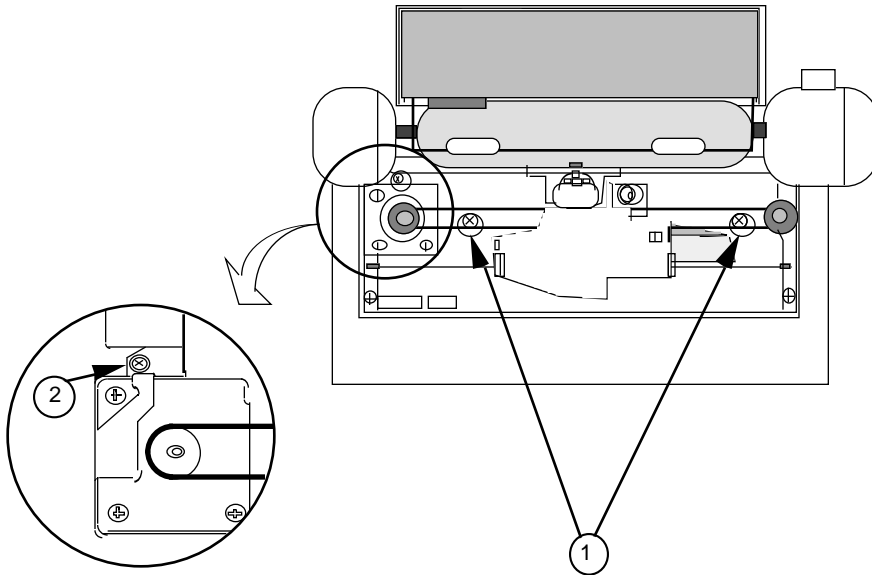

FIGURE 52
2. Place the connector bracket on top of the cut-sheet feeder connector so that the extension of the connector bracket (Figure 52, #2) faces the wide side of the connector and extends up into the printer and then down.
3. Place the cut-sheet connector onto the frame support at the rear of the printer. Be sure the narrow edge of the connector (Figure 52, #1) is facing away from the printer head.
4. Replace the two screws through the bracket and cut - sheet connector (Figure 52, #3).